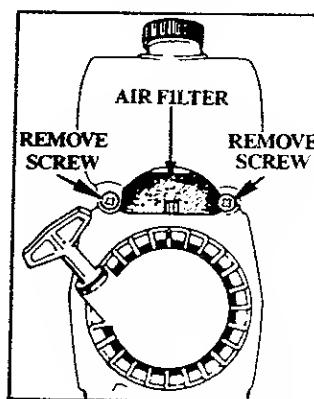

Figure 22
3. Remove the two screws and two washers from the fuel tank. Figure 22. Set fuel tank aside.